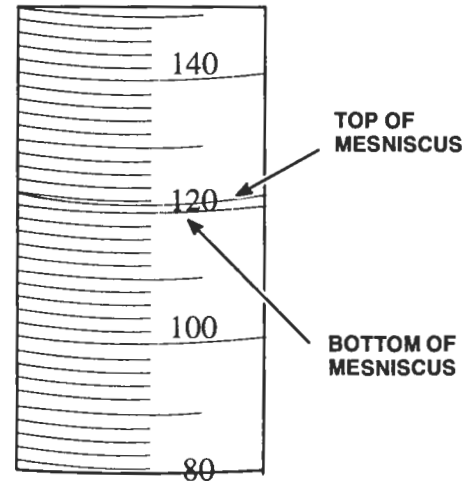

Figure 10. Checking Fuel Output
1. **Operator Errors:** If the column of liquid in the vial is read at the top of the meniscus instead of at the bottom, a variation of one or two points will result (Figure 10.)